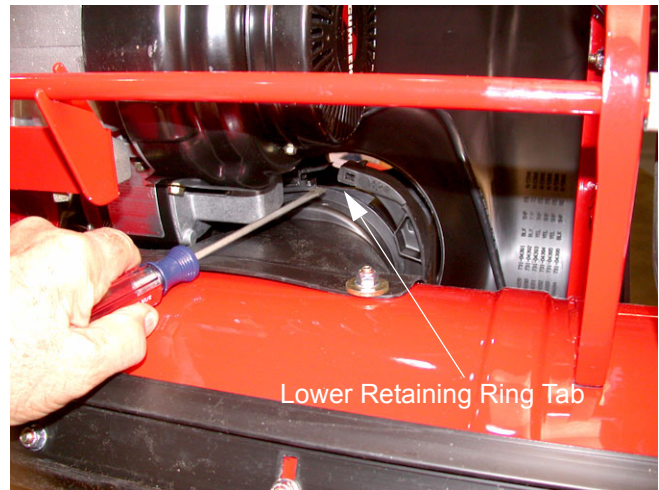

Figure 22
- 11.5. Removing the chute-retaining ring requires releasing a lower tab from under the housing. See Figure 22.